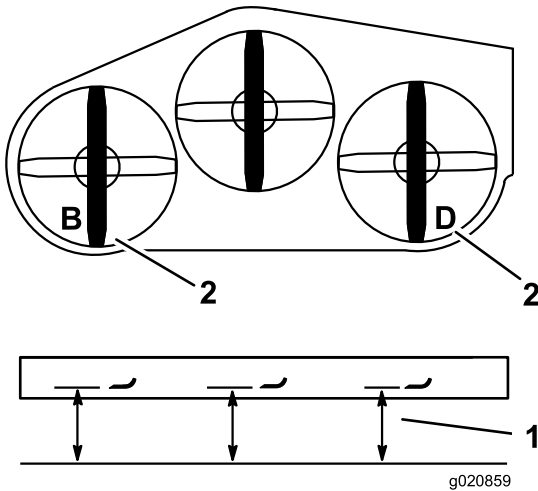

Figure 85
2. Measure the left blade at the **B** location, from a level surface to the cutting edge of the blade tip, and record this measurement (Figure 85).
3. Measure the right blade at the **D** location, from a level surface to the cutting edge of the blade tip, and record this measurement (Figure 85).
Note: The measurement at position **B** needs to be within 3 mm (1/8 inch) of the measurement at position **D**. (Figure 85). If it is not correct, proceed to the following steps.